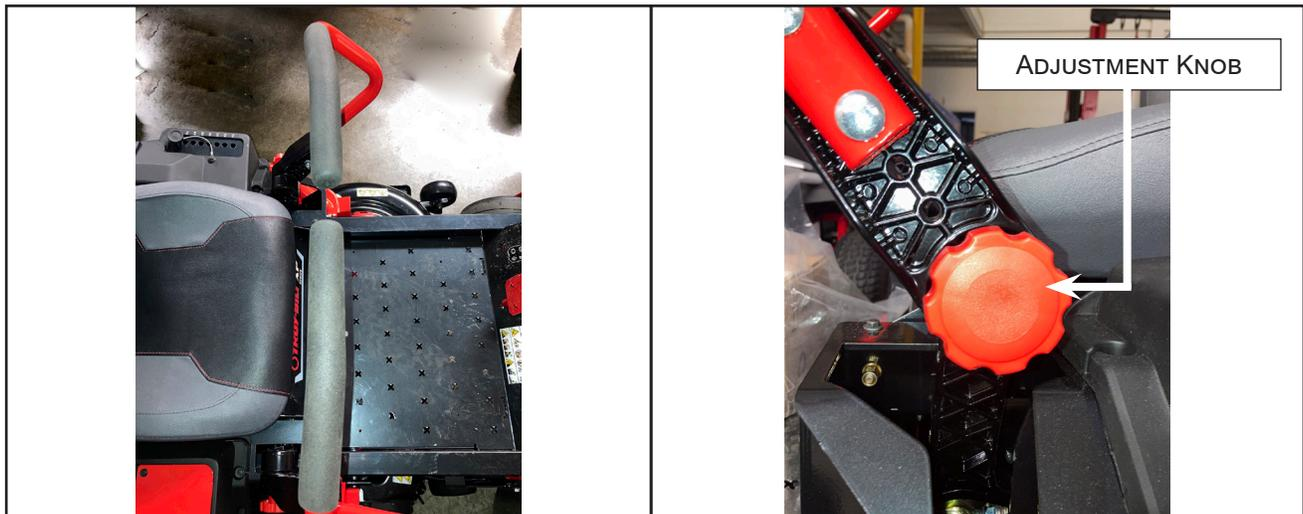

FIGURE 2
3. Confirm both lap bar drive control lever stop adjustment bolts are adjusted all the way out. Bolt must be flush with the end of the Rivnut. See Figure 2.
4. Confirm the lap bars are aligned evenly across from each other by adjusting the knobs shown in Figure 2.